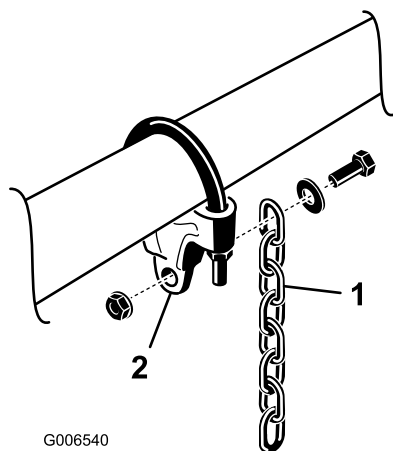

Figure 12
- Mount a lift chain to each chain bracket with a screw, washer and nut, positioning as shown in Figure 12